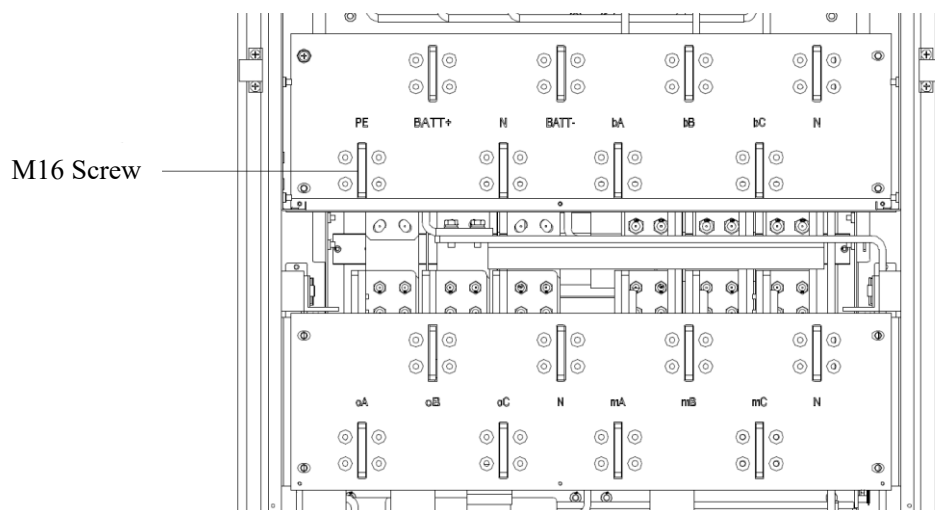

Figure 3-12 Connection terminals
Step 2: Open the front door of the cabinet (10-slot Cabinet opens the back door), remove the plastic cover. The input and output terminal, battery terminal and protective earth terminal are shown in Figure 3-12: